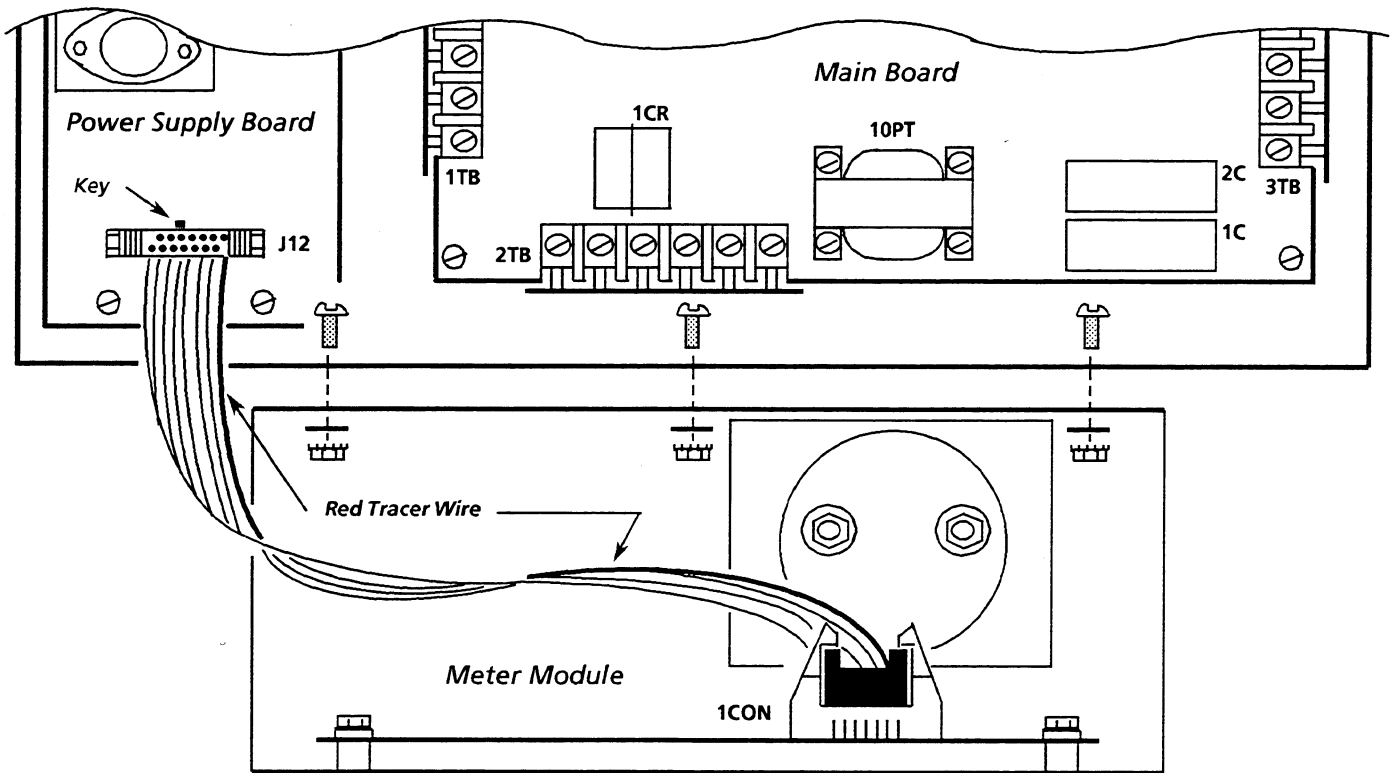

Figure 3. Ribbon Cable Interconnection (Rear View of Module Door)
To mount the Meter Module, use three (3); #8-32 X 3/8" P.H.M. screws, flat and star washers, and #8-32 hex nuts (refer to Figure 3). The front of the Meter Module should be mounted flush with the Drive Module enclosure door.
2. Connect the remaining end of the ribbon cable to connector **J12** on the Drive Module's Power Supply Board (see Figure 3). Verify that the locking tabs are in place.
3. Orient the ribbon cable as shown in Figure 3. Note relative position of the red tracer wire.